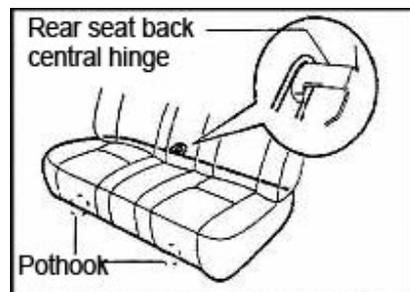

Fig. 7-15
- ② Remove the bolts and the armrest.
- (11) Install the central hinge of the rear seat back with two bolts at the torque of 20.4N·m.
- (12) Install the left hinge of the rear seat back with bolts at the torque of 18.1N·m.
- (13) Install the side back hinge of the rear seat with bolts at the torque of 18.1N·m.
- (14) Install the left rear side seat side back assembly with bolts at the torque of 7.8N·m.
- (15) Install the right rear seat side back assembly with bolts at the torque of 7.8N·m.
- (16) Install the left rear seat back assembly with two bolts at the torque of 18.1N·m.
- (17) Install the right rear seat back assembly with two bolts at the torque of 18.1N·m.
- (18) Install the rear seat cushion assembly, as shown in Fig. 7-15.
(1) Install the rear seat cushion, referring to Fig. 7-15.
① Push the cushion backwardly to make the back pad pin the cushion.
② Put the frame pothook of the seat on the two buckle seat assemblies (front side).